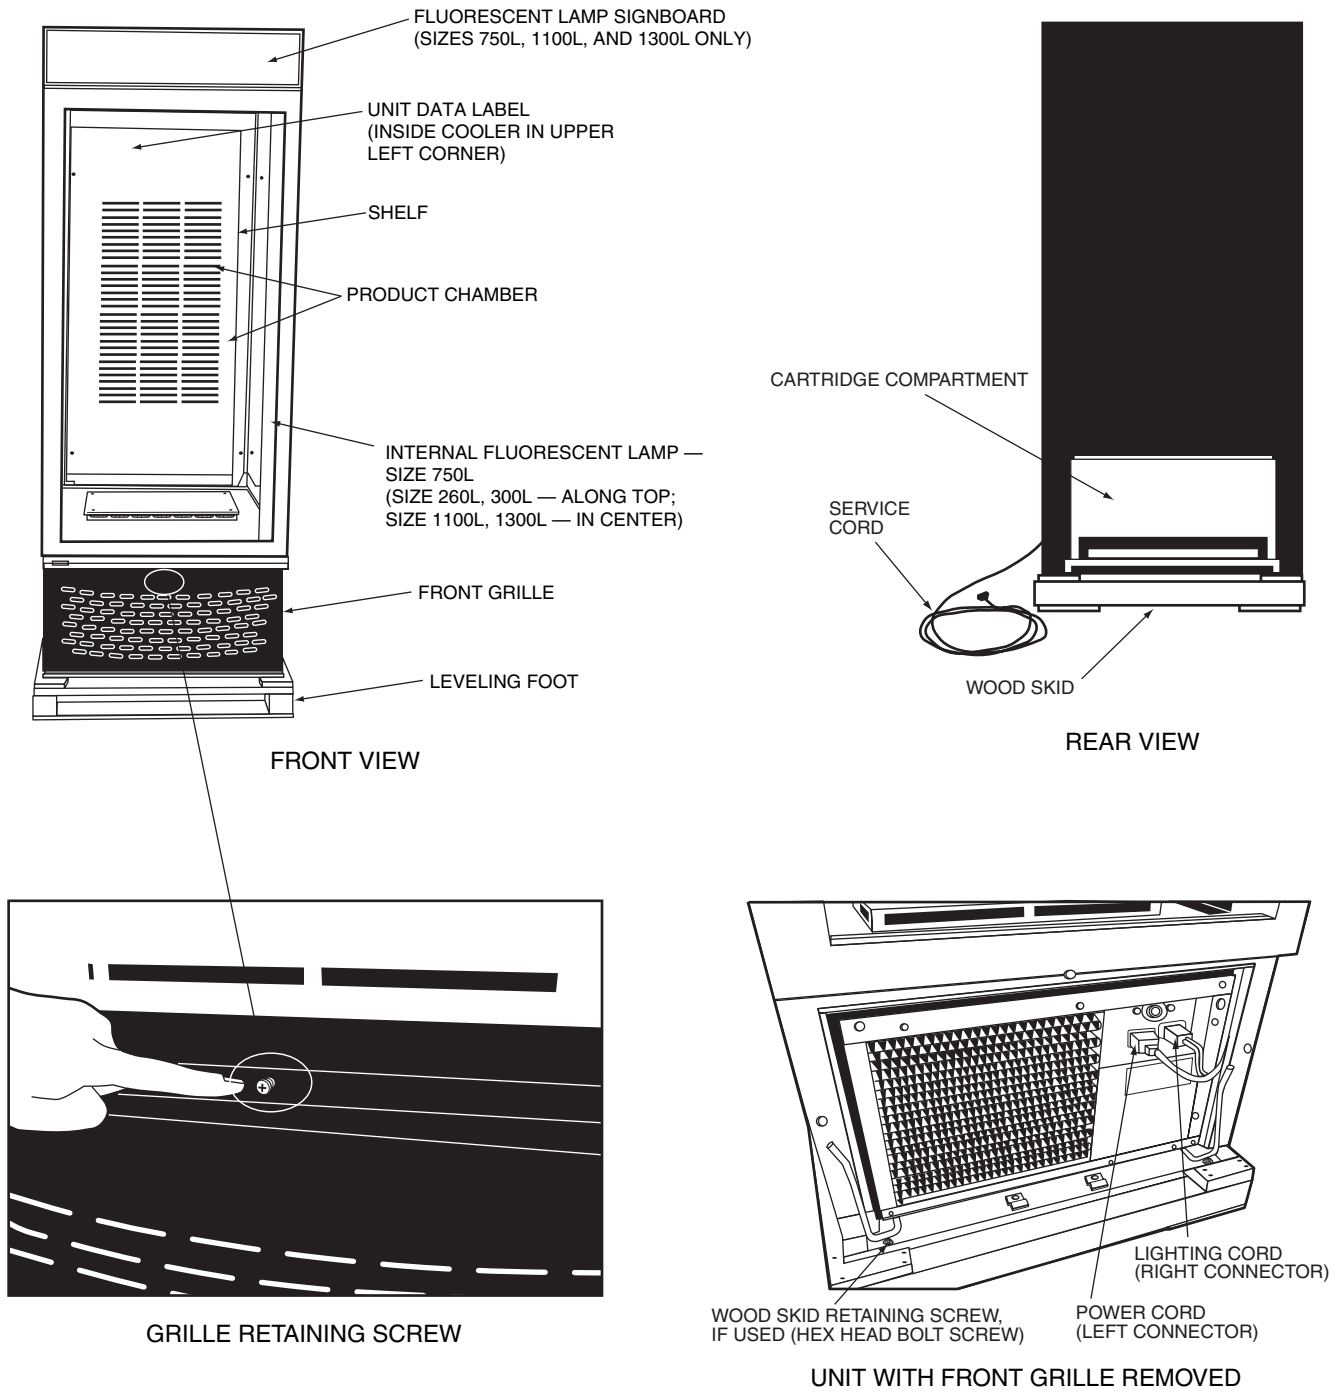

FIGURE 1 — MIRACOO™ BOTTLE COOLER UNIT COMPONENTS (Size 750L Shown)
Refer to Figure 1 for unit components. Units are designed for indoor placement only. Provide at least 3 in. of space between unit cabinet and any adjacent wall or fixture. Remove skid base by removing the retaining screws (4 hex head bolt screws). If optional casters will be used, unit must be located on flat, level surface. Refer to Table 1 for a list of standard parts.
1. After disconnecting the unit from the power supply, remove the grille retaining screw located in the upper-most part of the grille. (See Figure 1.)
See Figure 1 for location of service cord.